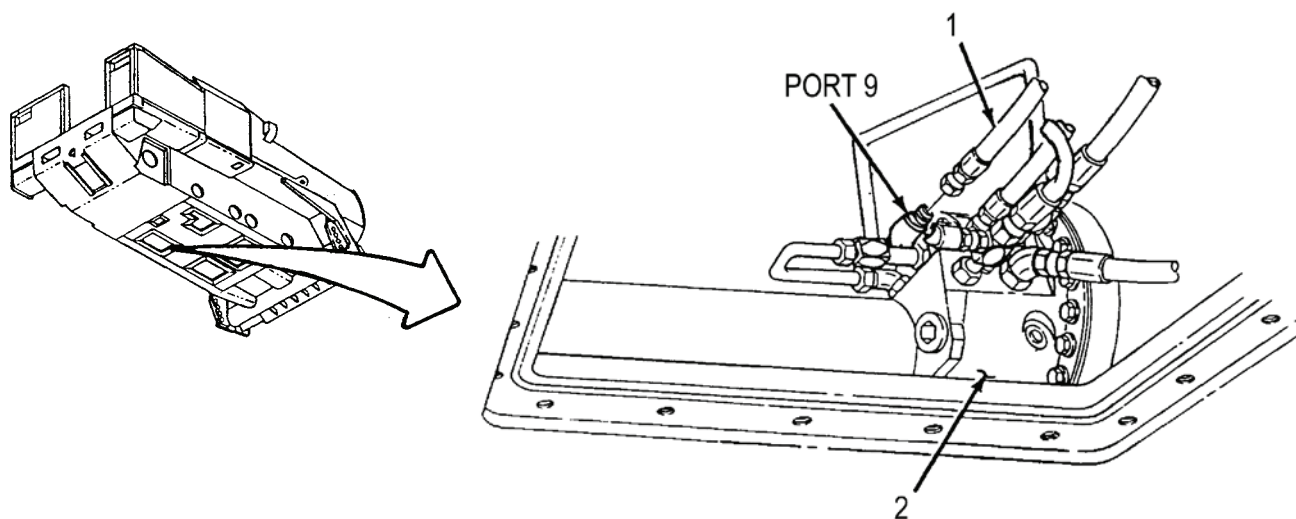

Figure 4. Left Actuator
- Connect REAR SPNSN UNIT-9 hose (Figure 4, item 1) to port 9 on No. 4 left actuator (Figure 4, item 2).